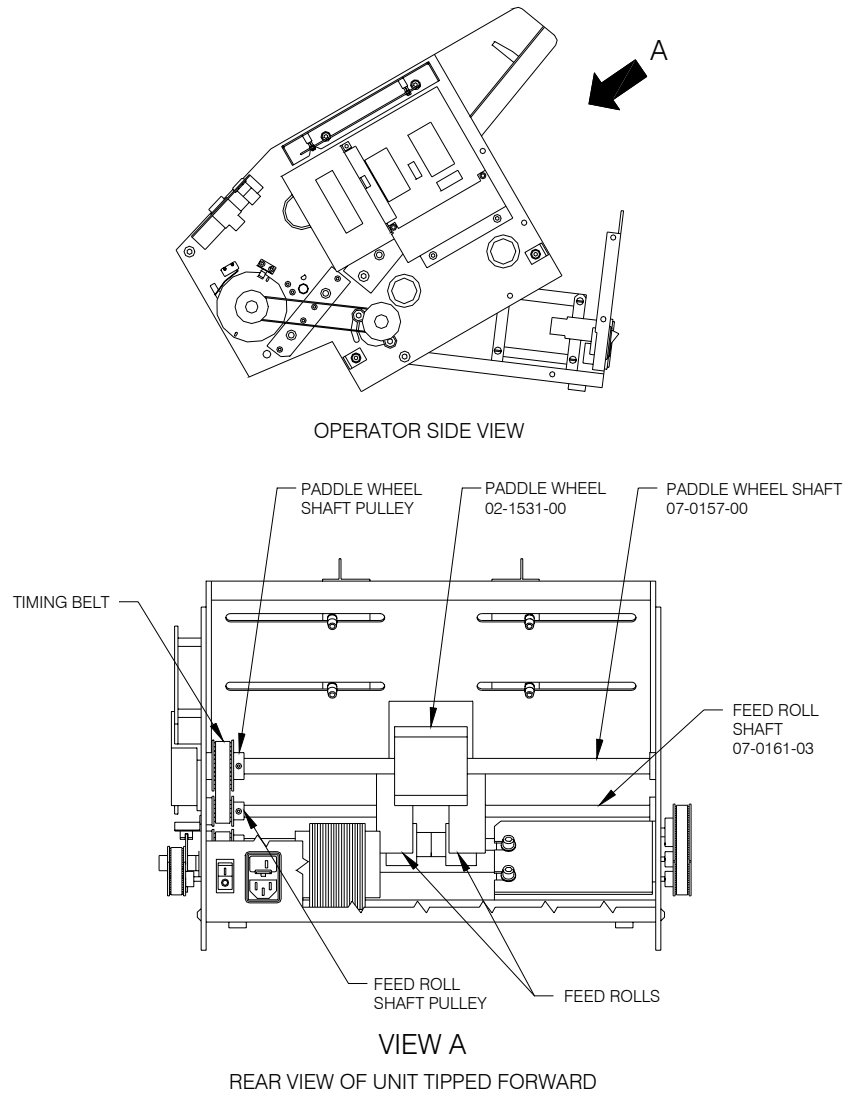

Figure 7.17 -- Inside View of the Base
6. Push the PADDLE WHEEL SHAFT through the hole in the SIDE FRAME on the non-operator side and out of the BASE. Pull the TIMING BELT off the PADDLE WHEEL SHAFT PULLEY. (Refer to **Figure 7.17.**)
10. Place the TIMING BELT around the PADDLE WHEEL SHAFT PULLEY. Make sure the TIMING BELT is around the FEED ROLL SHAFT PULLEY also. The tension is fixed. (Refer to **Figure 7.17.**)